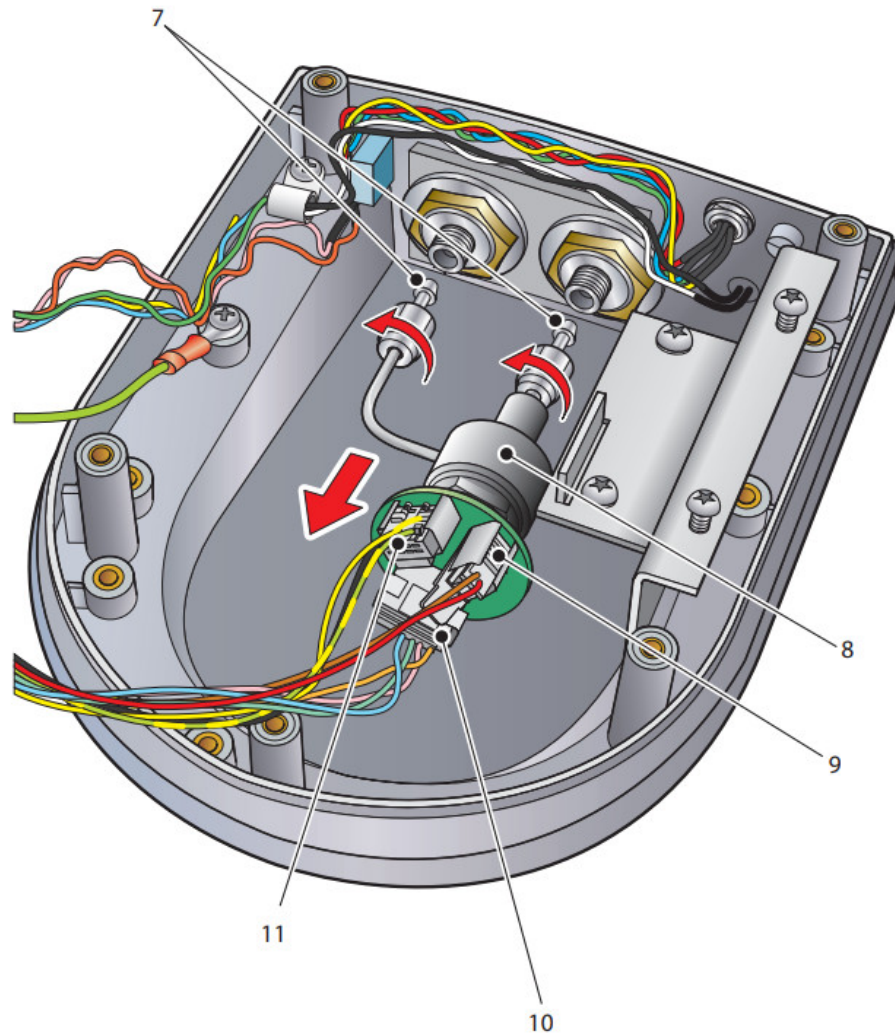

Figure 3 *Internal Sensor Removal*
1. Open the instrument case as described in Section 1.2.1. **NOTE:** In Figure 3 the battery pack has been removed
2. Remove the connectors, (9), (10) and (11) from the back of the sensor (see Figure 3). NOTE: Each connector is locked in position by a clamp situated at the back of the connector.